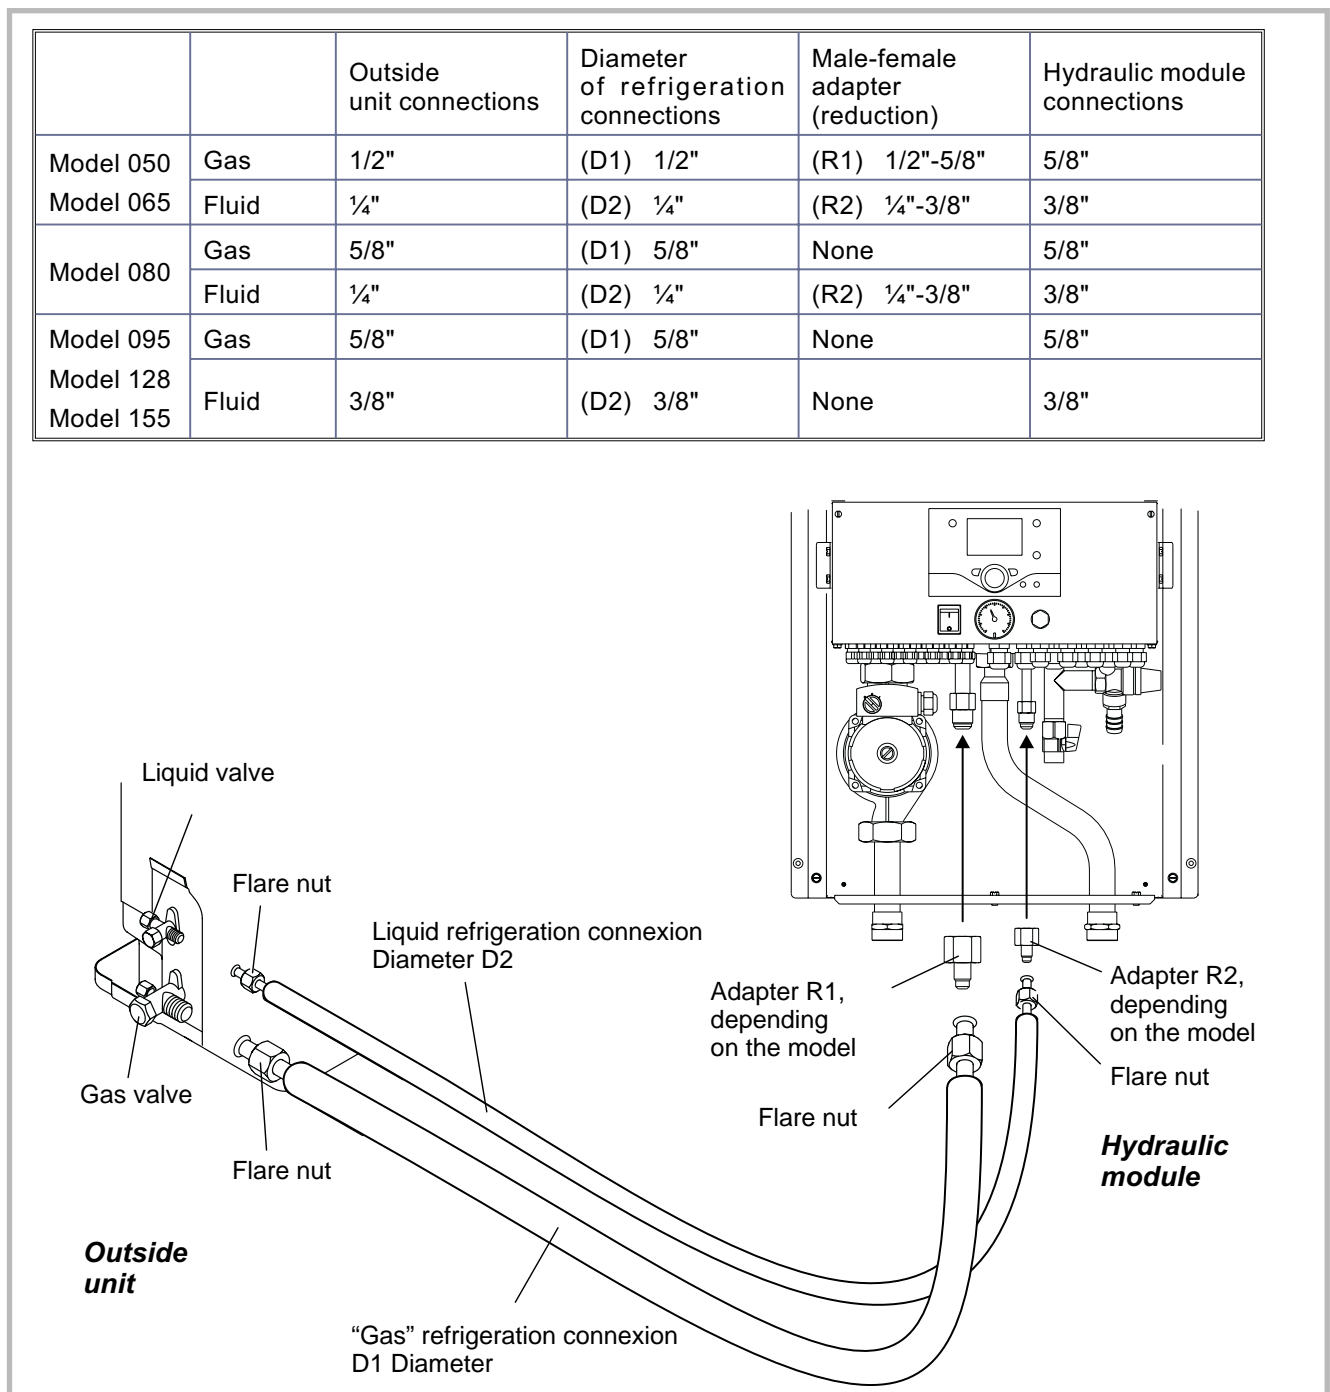

Figure 19 - Connecting the flared connections
- Depending on the case, connect an adapter (reducer) 1/4" - 3/8" or 1/2" - 5/8". (see figure 19).